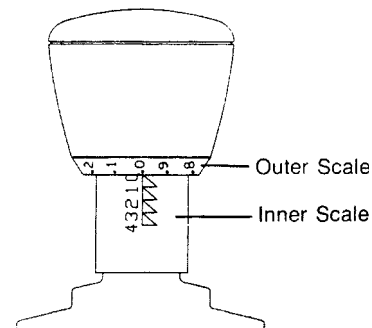

Figure 1 – With all arrows visible, the Inner Scale set at 0 on the indicator line aligned with the 0 on the Outer scale; the valve is closed.
- 7.) Remove the handwheel and thread the black turn indicator into it at a 0.0 setting. (Shown in Figure 1).